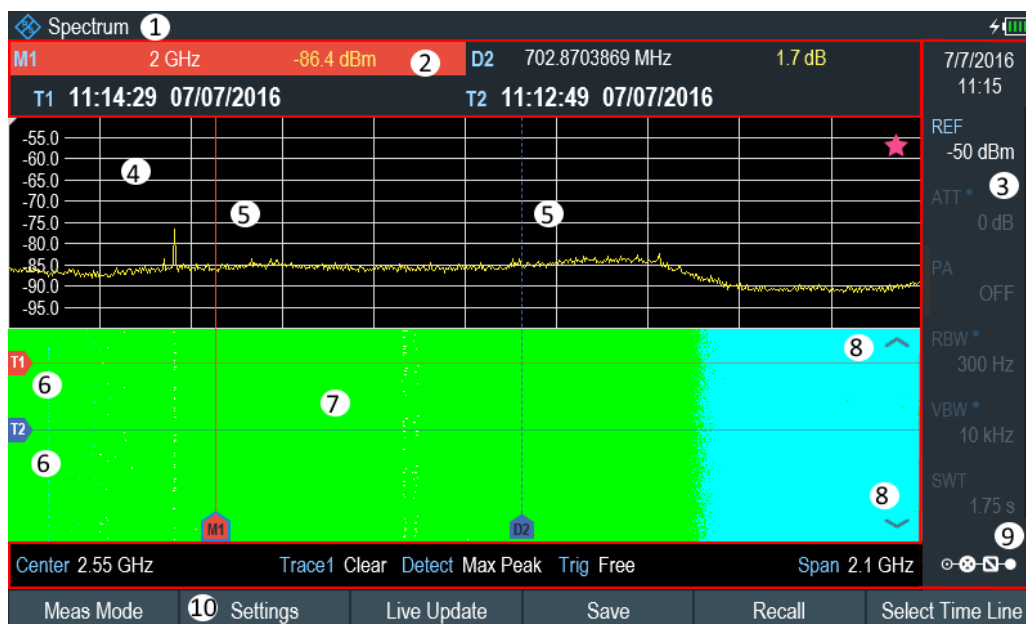

Figure 8-8: Screen layout for the spectrogram
5. To evaluate the measurement result, scroll up and down on the spectrogram scrollbar icon (see item 8 of Figure 8-8) to the frame that you are interested to view.